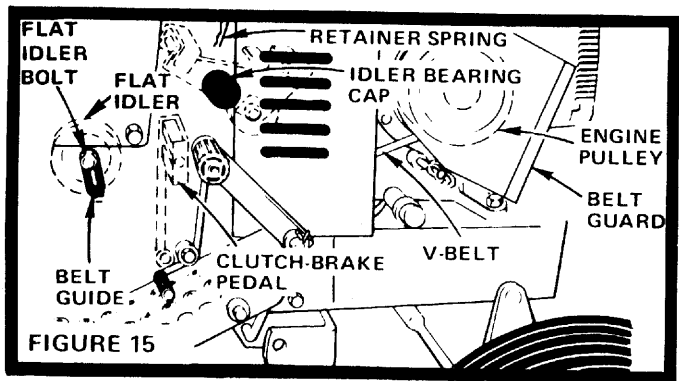

FIGURE 15
- A new V-Belt may stretch after the first few hours of operation. If Clutch-Brake Pedal, in drive Position (Fig. 15), is considerably to the front or rear of the vertical position, the V-Belt is out of adjustment and must be re-tensioned.
- a. Idler Bearing (Fig. 15)